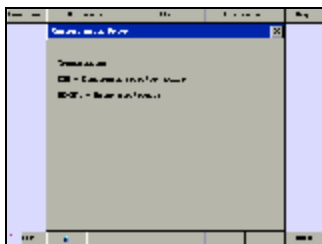

Fig.3.19
14. Select **Drive** to enter the interface as shown in Fig.3.19.